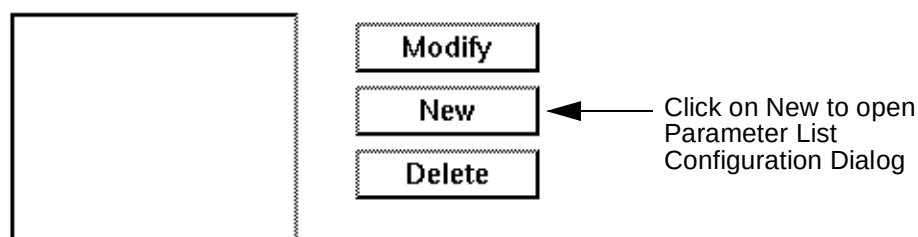

Figure 3-34. Parameter List Box
1. Click on the **New** button by the Parameter List box in the Report Configuration window, Figure 3-34.